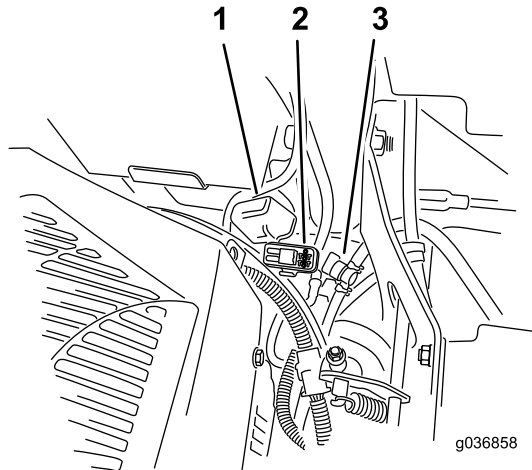

Figure 52
**Note:** For MyRide machines, ensure that the ground cable does not rub against the trailing arm or lower shock mount (Figure 52).
The fuses are located on the right console next to the seat (Figure 52).
2. Install a new fuse (Figure 52).